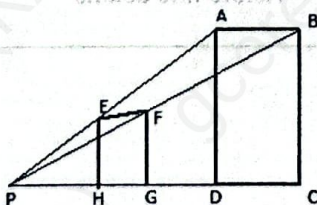

Figure 8
14. Viewed from the point P, in figure 8 below, the image ABCD of the object EFGH is said to be